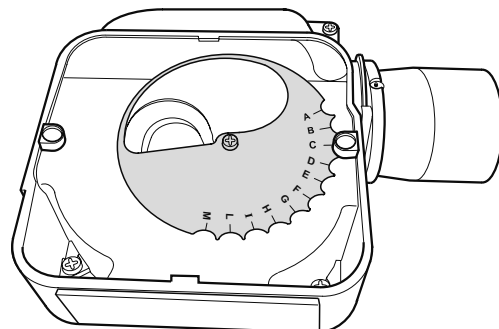

Fig. 19 - 15/21 burner air adjuster disc (shown set to position 'C')
4. The secondary air shutter disc is factory set in position 'C' – i.e. with the cut-out marked C located against the die-cast boss on the fan housing. See Fig 19.